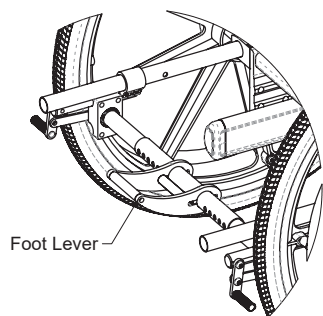

Figure 14.34: Foot Operated Wheel Lock
6. To engage and disengage the Foot Operated Wheel Lock, simply push down or flip up the foot lever shown in Figure 14.34.